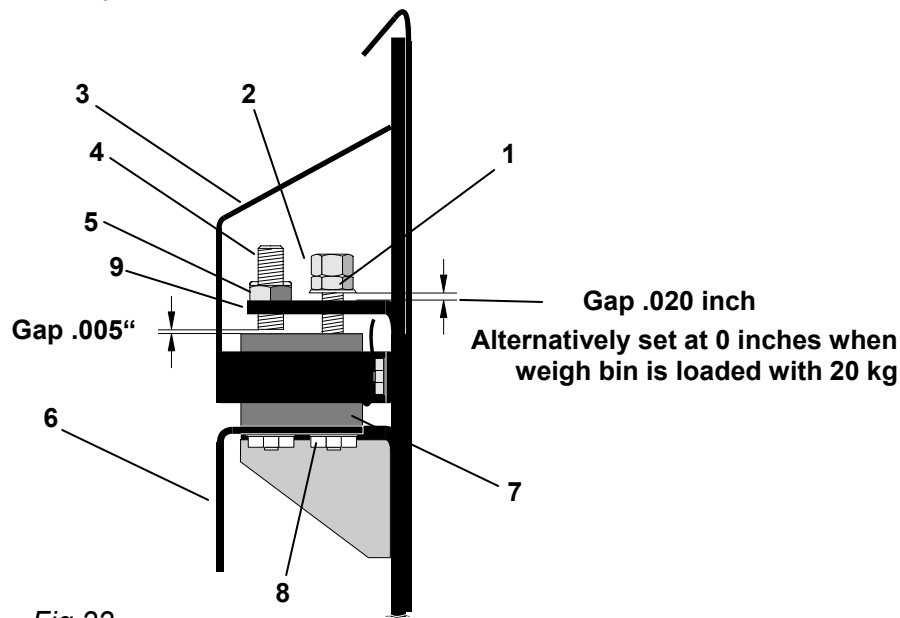

Fig 22
- The load cell upward motion stop bolt (figure 22, item 4) and lock nut (figure 22, item 5) most likely were not loosened during removal of the load cell and should not need reset. If they were loosened the gap between the upper load cell stop bolt (figure 22, item 4) and the new load cell (figure 22, item 7) should be set at approx. .005" (use a feeler gauge for value) when the weigh bin is in place and at rest. Once set tighten the lock nut (figure 22, item 5) to hold the bolt (figure 22, item 4) in place.
- Screw nut (figure 22, item 1) and lock nut (figure 22, item 2) onto hanger mounting screw (figure 22, item 8) but do not tighten yet. The purpose of this bolt and nut is to prevent over travel of the load cell to prevent damage to the cell.
- The gap between the load cell stop bracket (figure 22, item 9) and the bottom of the nut (figure 22, item 1) should be about .020" (use feeler gauge). Once this distance is set tighten the two nuts (figure 22, item 1 and 2). Alternatively this can be set by either hanging a weight of 10 kg on each individual load cell hanger bracket (figure 22, item 6) or re-installing the weigh bin and loading it with a total weight of 20 kg. Once this weight is installed set the gap between the nut (figure 22, item 1) and load cell stop bracket (figure 22, item 9) to zero distance then tighten the two nuts (figure 22, item 1 and 2).